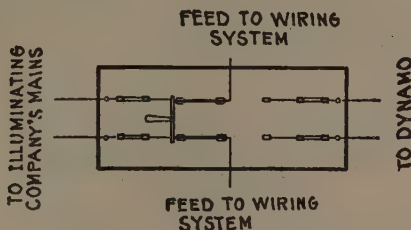

FIG. 995.—Double throw switch for use in isolated plants when auxiliary power is used from the central station in case of breakdown.
**Ans.** The supply from the central station should be connected to the wiring system through a double throw switch, as in fig. 995, so that either source may be thrown into circuit.